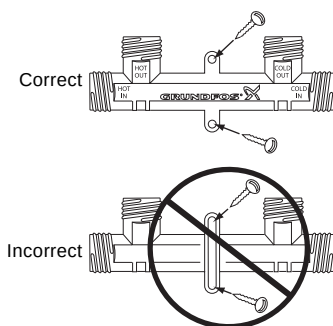

Fig. 6 Correct installation of the bypass valve
8. The bypass valve may be mounted to the wall with supplied mounting screws if desired; two-hole mounting bracket flush with wall. See fig. 6.